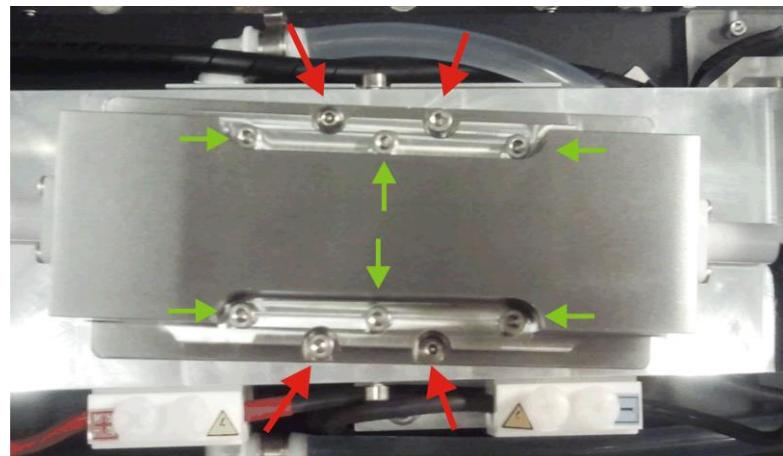

Figure 11 Screws fixing the upper chamber part
6. Unscrew six screws fixing the upper part of the laser chamber (pointed by green arrows in Figure 11. Do not release the four screws holding the underlying plate, pointed by red arrows!)
5. Release six screws (pointed by green arrows in Figure 11) fixing the upper part of the laser chamber. That should be done to let water out of the laser head. Make sure water leaked out. Then tighten the released screws back again.
7. Unscrew four screws fixing the laser head (pointed by red arrows in Figure 11).